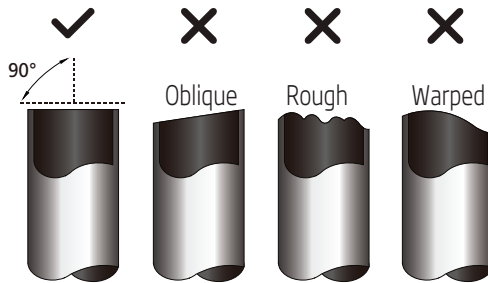

Fig. 3.1
3. Make sure that the pipe is cut at a perfect 90° angle. Refer to Fig. 3.1 for bad cut examples.